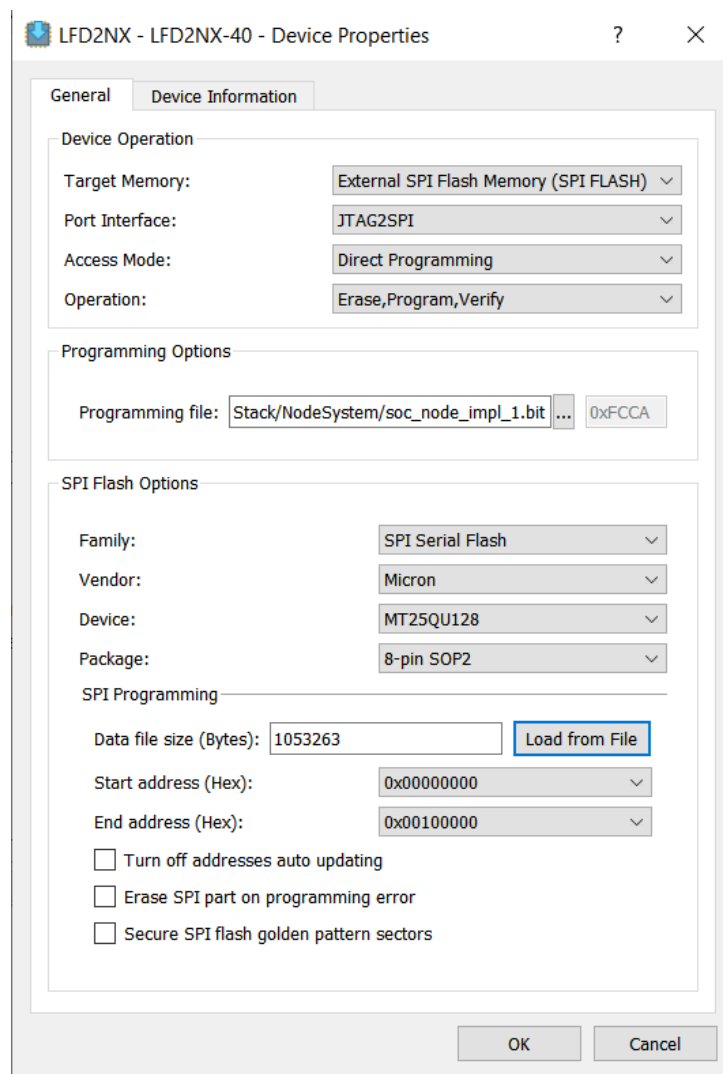

Figure B.15. Radiant Programmer - Bit Stream Flashing Settings (Node System)
8. To program the bitstream file, select the options as shown in Figure B.15.